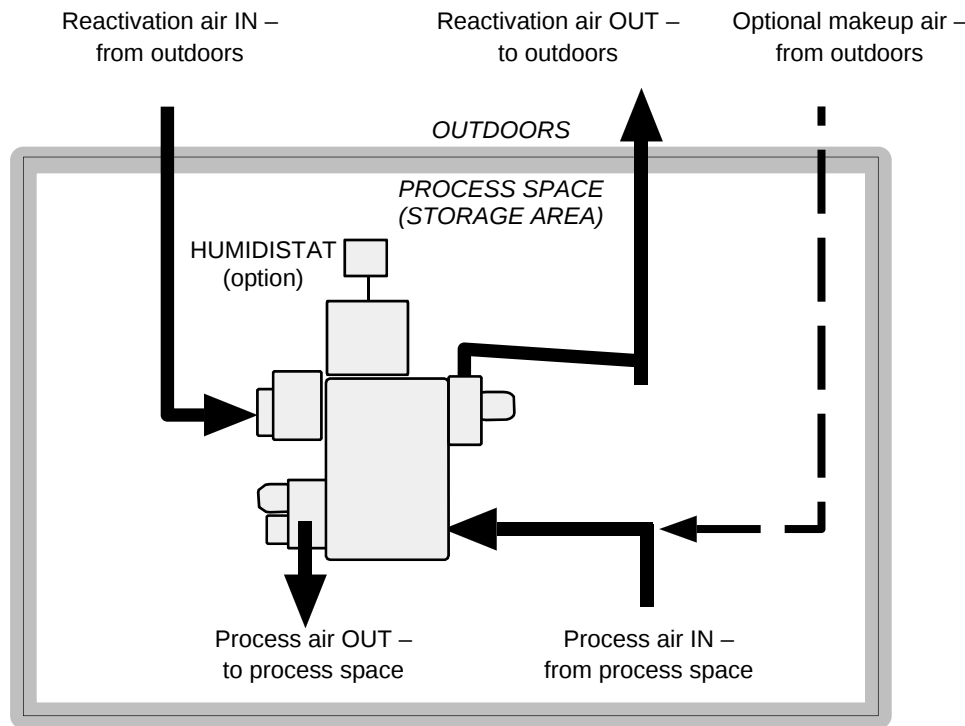
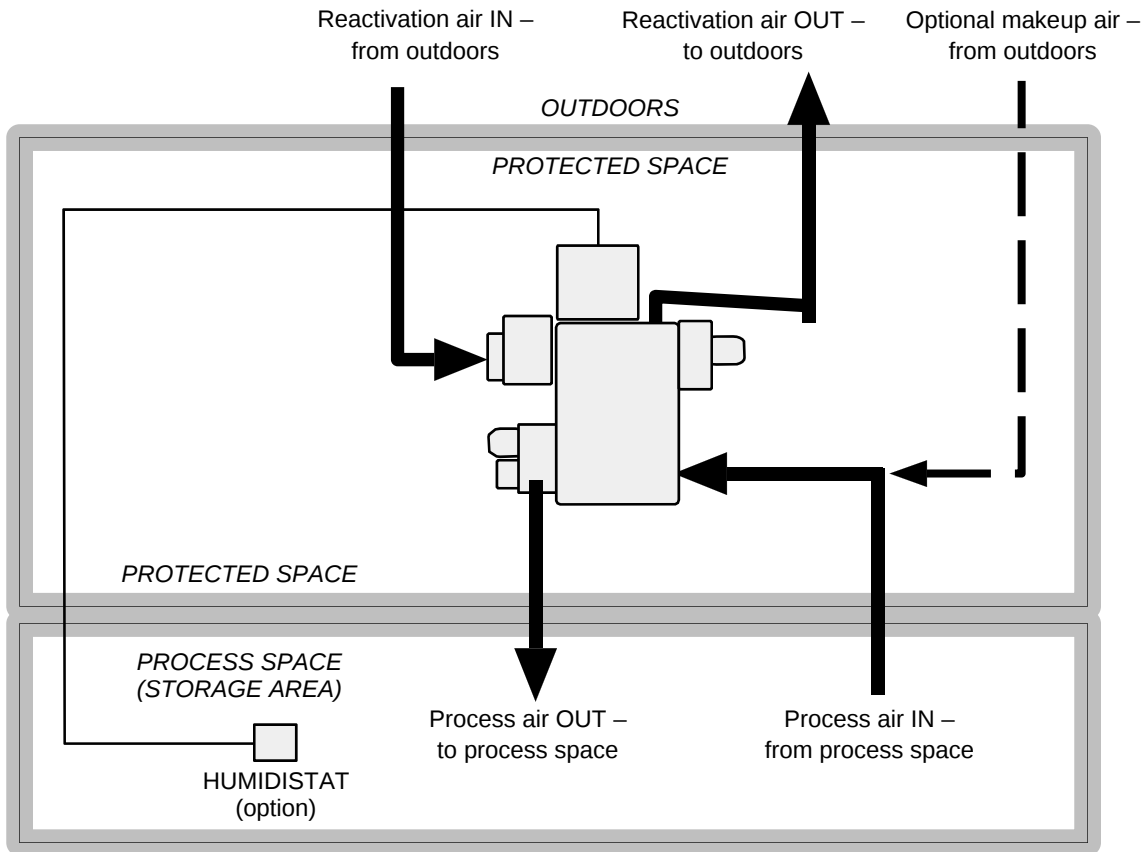
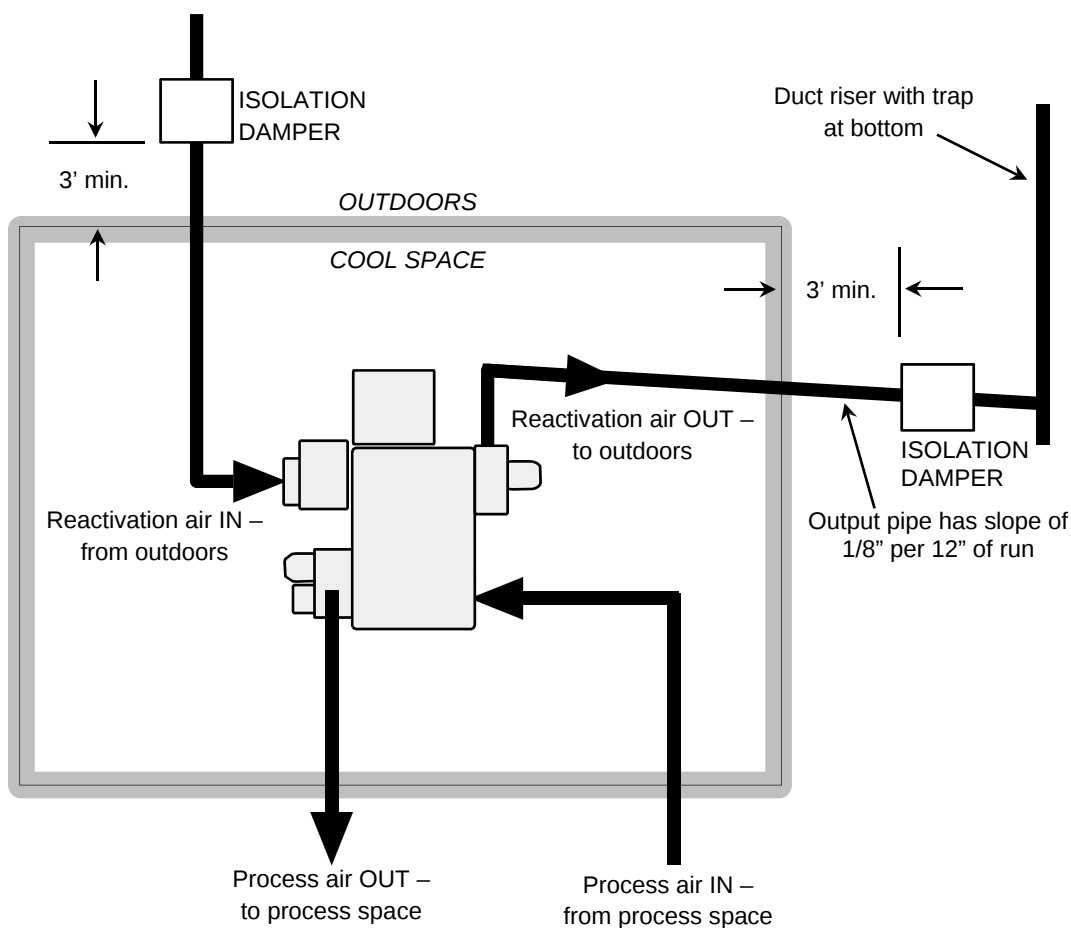

Figure 4-1
Figure 4-2
Figure 4-3
2. Figure 4-1, Figure 4-2, and Figure 4-3 show four different ways of installing the R-Series unit.
3. To minimize condensation on the outside of the unit when it is not running, the dehumidifier can be placed inside a cool space, rather than outdoors. This will reduce the amount of condensation forming on the outside of the unit. See Figure 4-3.